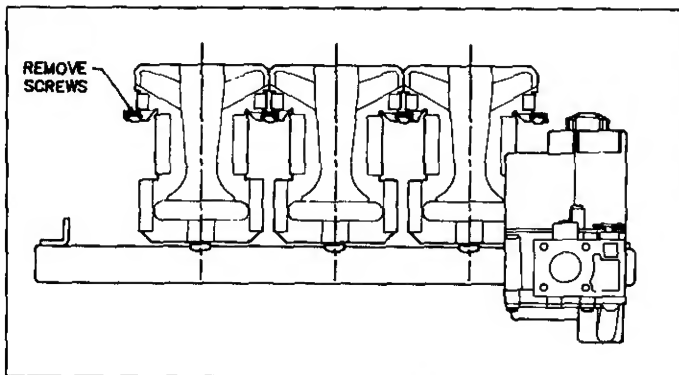

FIGURE 36
5. Starting with burner farthest from gas control, remove burner screws and burners. Burners overlap. Burner farthest from gas control is on top. See Figure 36.